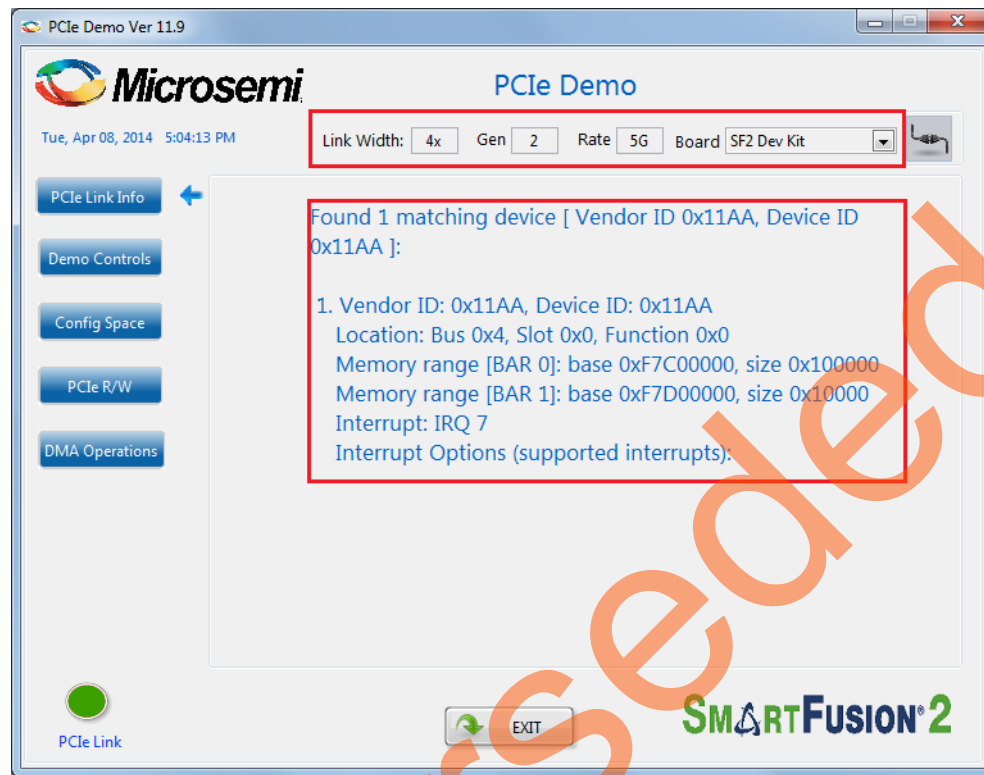

Figure 14 • Version Information
3. Click the **Connect** button at top right corner (highlighted below) of the GUI. The messages are displayed on the GUI as shown in Figure 14.